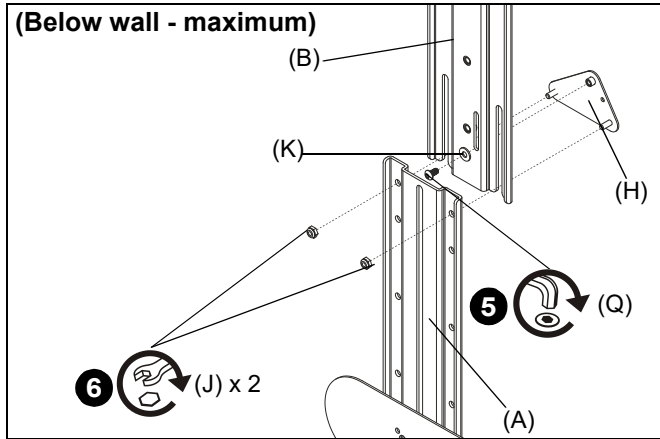

Figure 5
- (For **maximum extension**) Use #10-32 x 3/8" button head cap screw (Q) and small washer (K) to secure adapter plate (A) to main bracket (B). (See Figure 5)
- (For **maximum extension**) Use two #10-24 lock nuts (J) to secure upright bracket (A) to main bracket (B) and adapter plate (H). (See Figure 5)